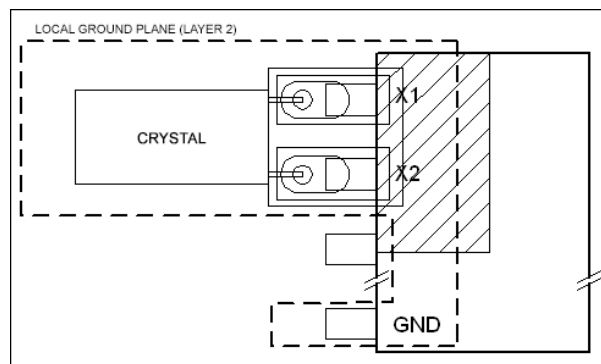

Figure 5. Recommended layout for crystal.
5. It may also be helpful to place a local ground plane on the PCB layer immediately below the crystal. This helps to isolate the crystal from noise coupling from signals on other PCB layers. Note that the ground plane needs to be in the vicinity of the crystal only and not on the entire board. See Figure 5 for an illustration of a local ground plane. Note that the perimeter of the ground plane does not need to be larger than the outer perimeter of the guard ring.